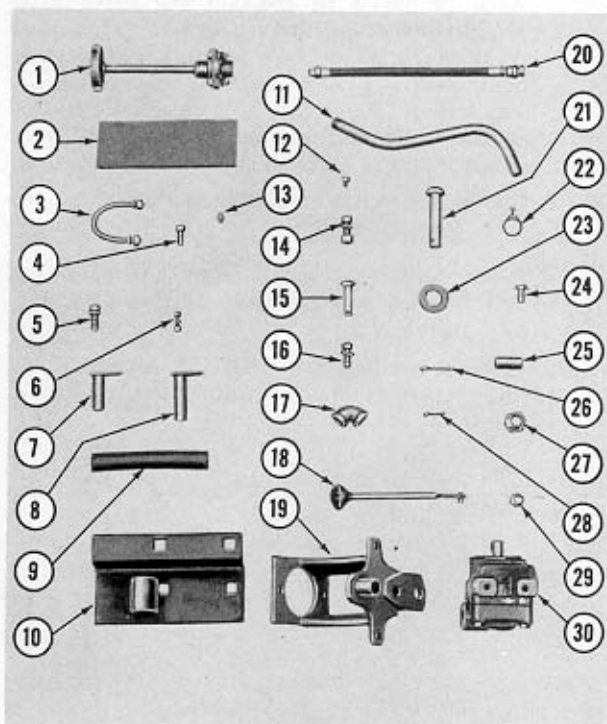

Figure 3
D.M.C. Bundle No. 194448 contains the following parts: One of each of the parts is shown in Figure 3.